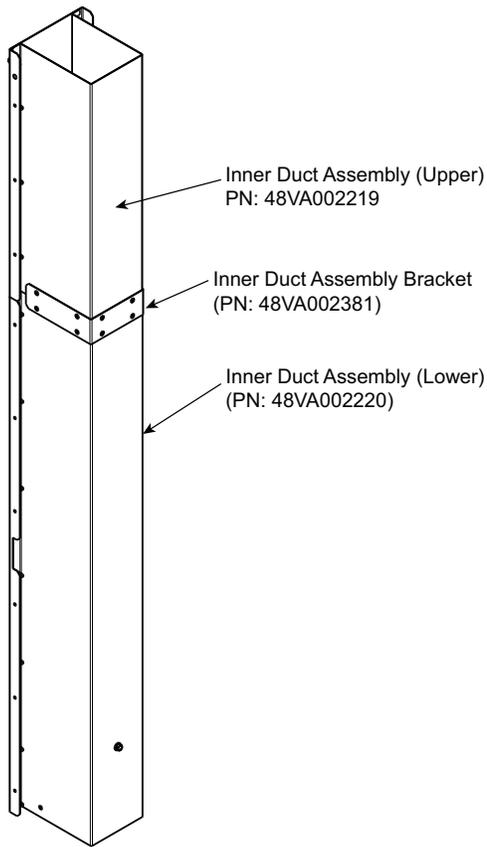

Fig. 5 – Inner Duct Assembly
3. Assemble the inner duct assemblies together using the inner duct assembly bracket (part no. 48VA002381) and the screws provided. See Fig. 5 for inner duct assembly.